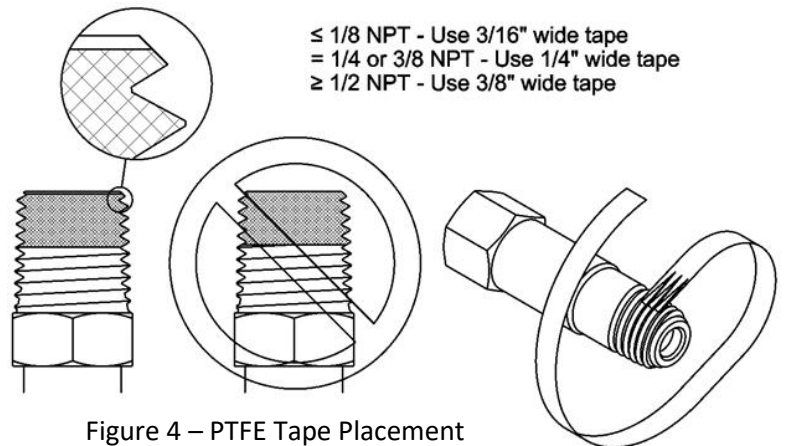

Figure 4 – PTFE Tape Placement
- d. Start the PTFE tape on the first thread, leaving a slight section of the chamfer exposed as shown in Figure 4. Make sure the tape does not overlap the end of the fitting.